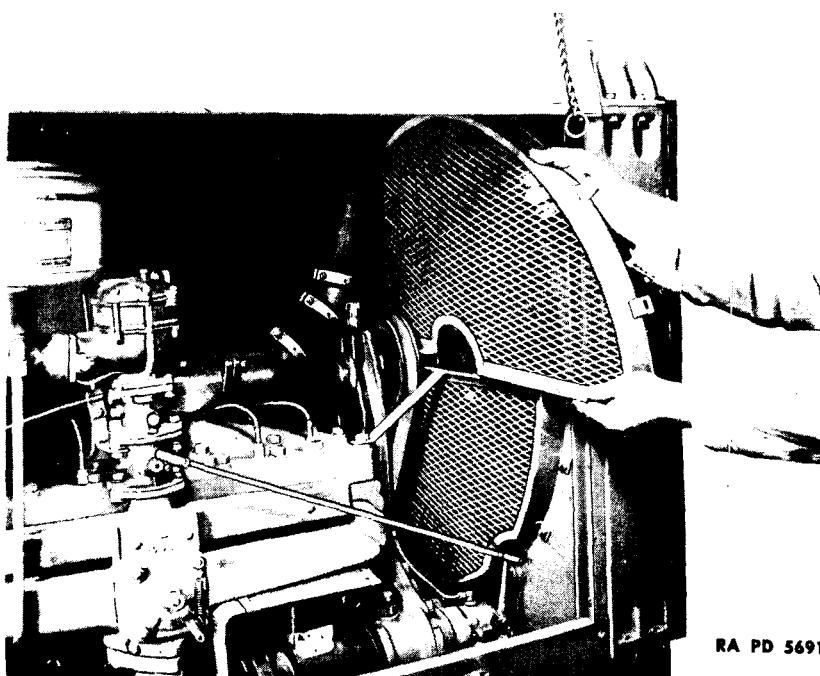

Figure 23—Fan Guard Removal
(2) REMOVE FAN GUARD (fig. 23). Take out screws, nuts, and lock washers holding the two sections of the guard together. Take off nuts and lock washers attaching the two guard sections to the shroud, and lift out guard.
(3) REMOVE FAN AND BRACKET. Take out base cap screws and lock washers holding bracket to engine, and lift off fan assembly.